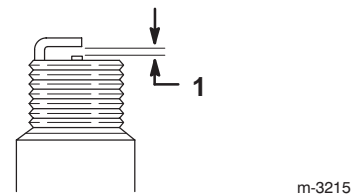

Figure 15
8. Set the gap on the new spark plug at 0.030 inch (0.76 mm) as shown in Figure 15.